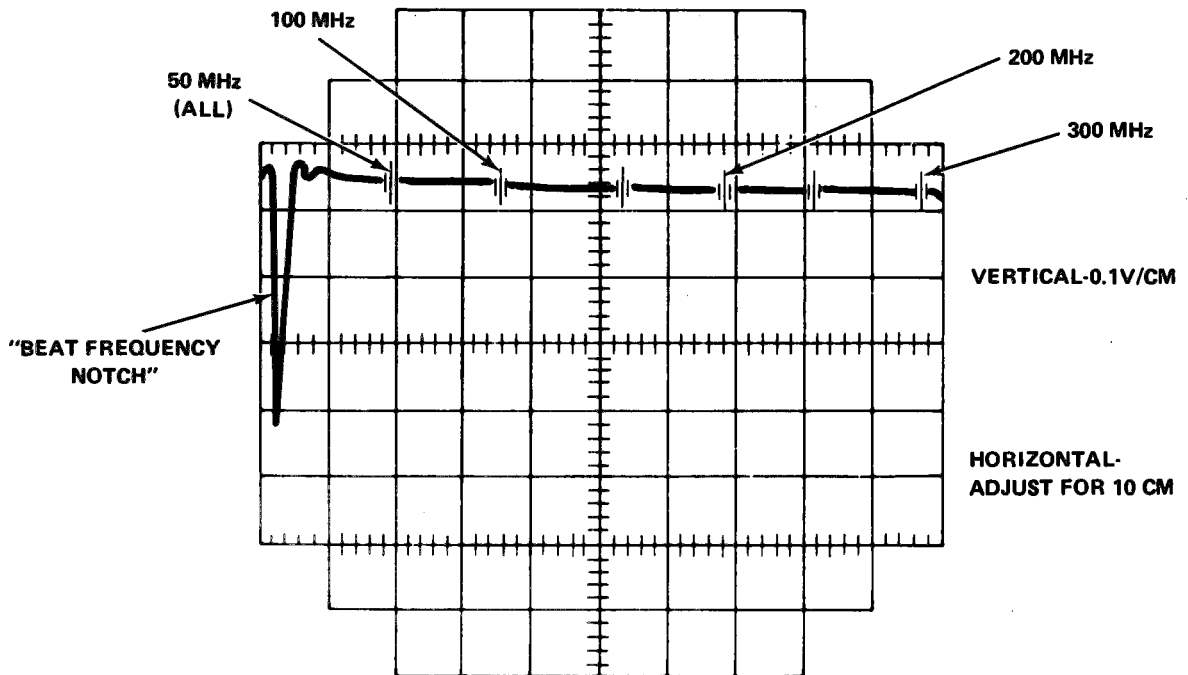

Figure 4-18. Frequency Response at Maximum Sweep Width (VHF)
- ff. Adjust FREQUENCY dial to position "beat frequency notch" at the extreme left of horizontal trace as shown in figure 4-18.
- gg. Simultaneously adjust FREQUENCY dial to maintain "beat frequency notch" at this position and adjust R563 (VHF SW LIMIT) to obtain a 300 MHz bandwidth as shown in figure 4-18.